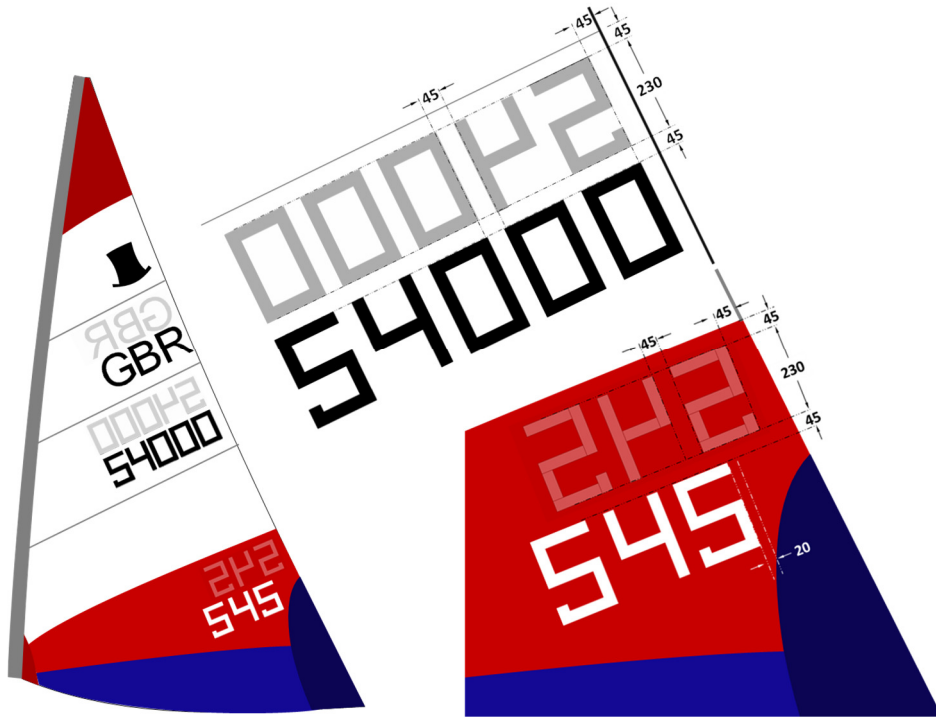
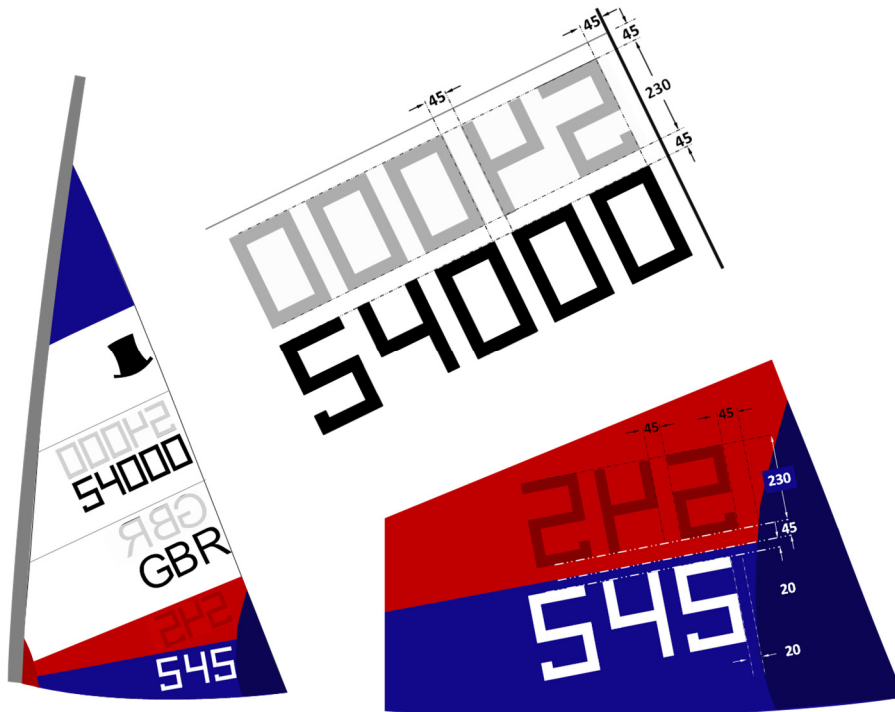

Figure 6 Letters & Numerals placement – 5.3m2 sail
Figure 7 Letters & Numerals placement – 4.2m2 sail
- d) On 5.3 m2 **sails** they shall be placed in the second panel beneath the Class Insignia (Figure 6) and on 4.2 m2 **sails** they shall be placed in the first panel beneath the Class Insignia (Figure 7).
- i) Event Numbers for the 5.3 m2 **sail** (Figure 6)
- j) Event Numbers for the 4.2 m2 **sail** (Figure 7)